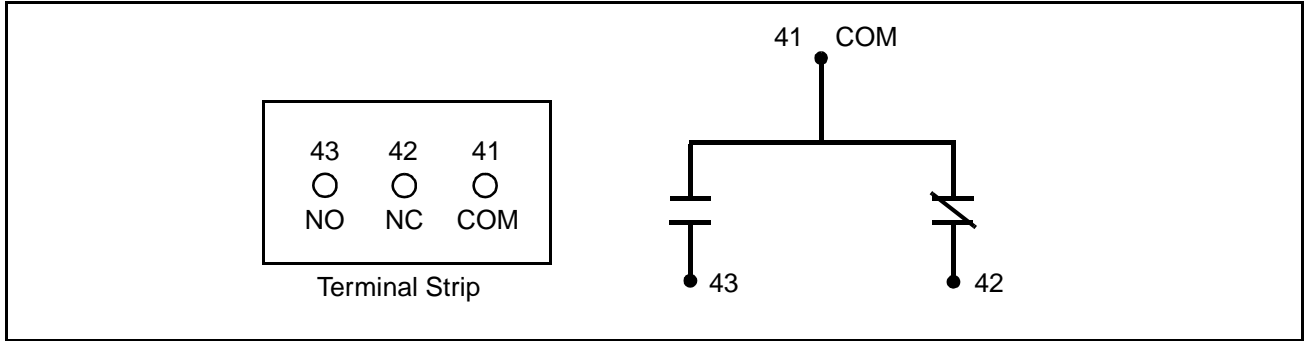

Figure 1 – Auxiliary M-contactor Terminal Connections
The Auxiliary M-contactor allows you to interlock the on/off status of a single-phase FlexPak™ Plus or MinPak™ Plus DC drive with user-supplied devices. The Auxiliary M-contactor provides a single pair of Form C contacts, one normally open (NO) and one normally closed (NC). Both contacts share a common terminal, as shown in figure 1. The contacts function for unidirectional or bi-directional (forward/reverse) drives.
Refer to figure 1 and to your drive instruction manual for help locating and identifying drive components. To install the Auxiliary M-contactor in your FlexPak Plus or MinPak Plus DC drive:
- Step 5. Connect the Auxiliary M-contactor's three-wire harness connector to the three bayonet pins labeled "AUX. M." near the upper left corner of the drive's Regulator board. The yellow wire (39) is connected to the pin marked "YEL."
- Step 6. Route the wires from the external devices into the drive chassis and connect them to the Auxiliary M-contactor's terminal strip. Refer to figure 1 for terminal identification. To prevent shorts at exposed points, do not strip more than 6 mm (1/4 inch) of insulation from the wires.